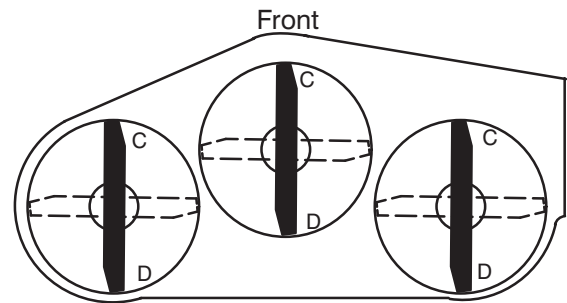
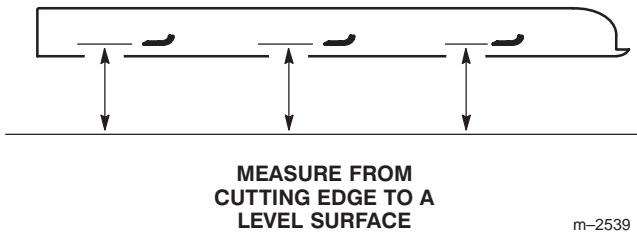

Figure 52
Figure 53
- Position one blade front-to-rear (Fig. 52). Measure at **C** and **D** locations (Fig. 52) from a level surface to the cutting edge of the blade tips (Fig. 53).
4. Position the blades front-to-rear (Fig. 52). Measure at **C** and **D** locations (Fig. 52) from a level surface to the cutting edge of the blades (Fig. 53).